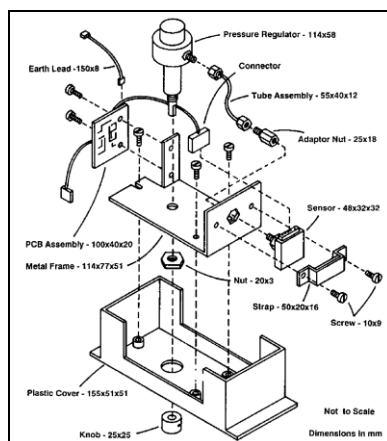

Figure 1
1. Prepare an assembly sequence for the following exploded view of assembly as given in figure 1.